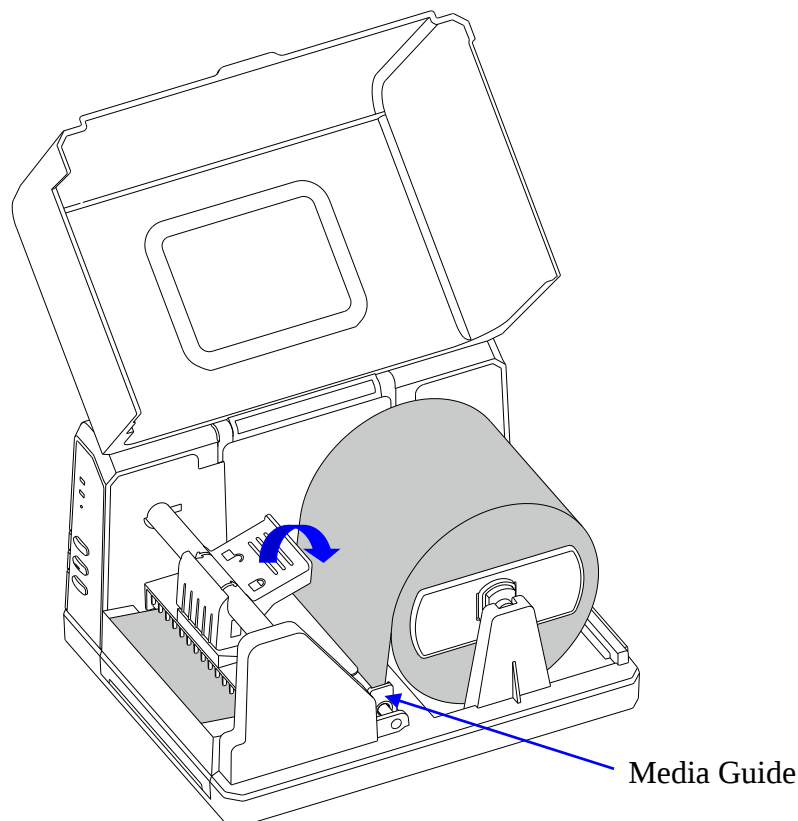

Figure 2-7 Media Loaded
6. Slide the Media Guide to the edge of the media, making sure that the media remains flat and is placed in the middle of the Tear-off Bar. This can be checked with the ruler on the Tear-off Bar. See Figure 2-7.
7. Press down the Handle of the Printhead to lock the Printhead. See Figure 2-7.